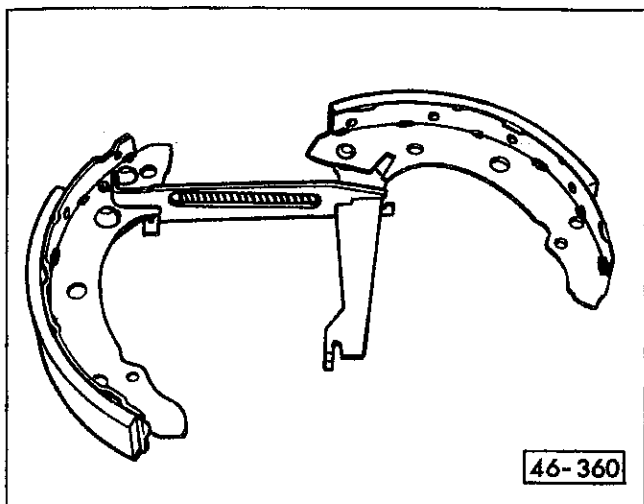

Fig. 16. Insert brake shoe with brake lever in push rod.
3. Insert brake shoe with brake lever in push rod. See Fig. 16.